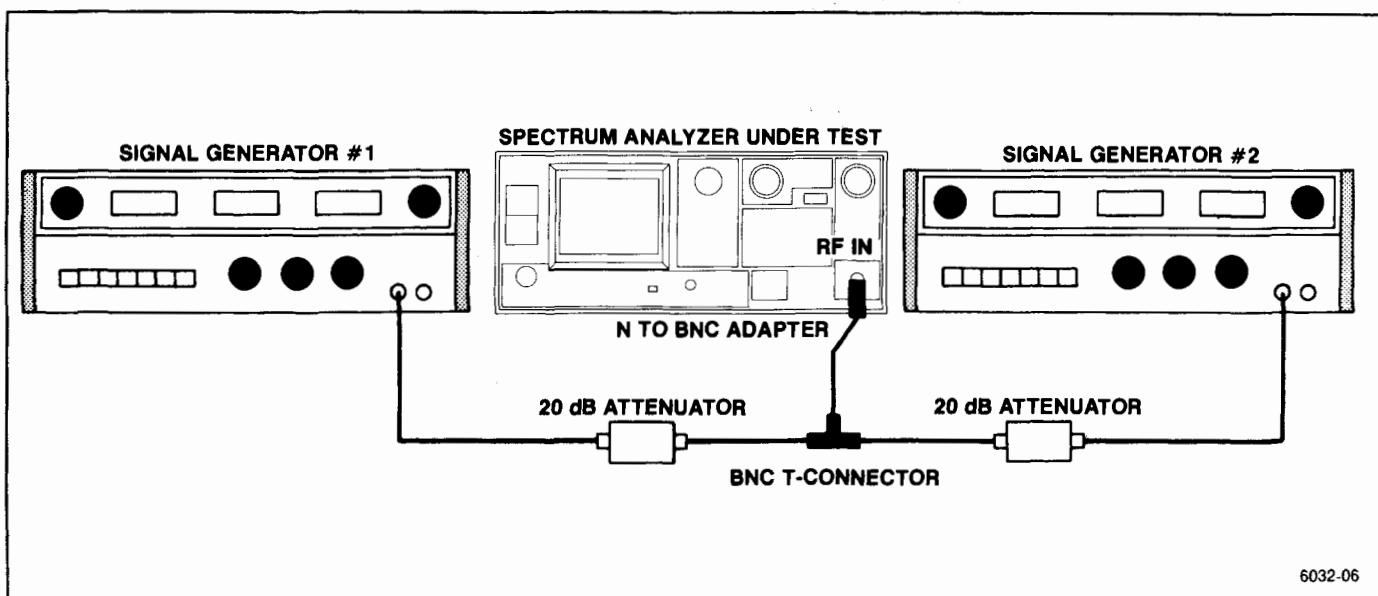

Figure 4-14. Test equipment setup for checking intermodulation distortion.
- Connect the test equipment as shown in Figure 4-14, and set the Spectrum Analyzer controls as follows: